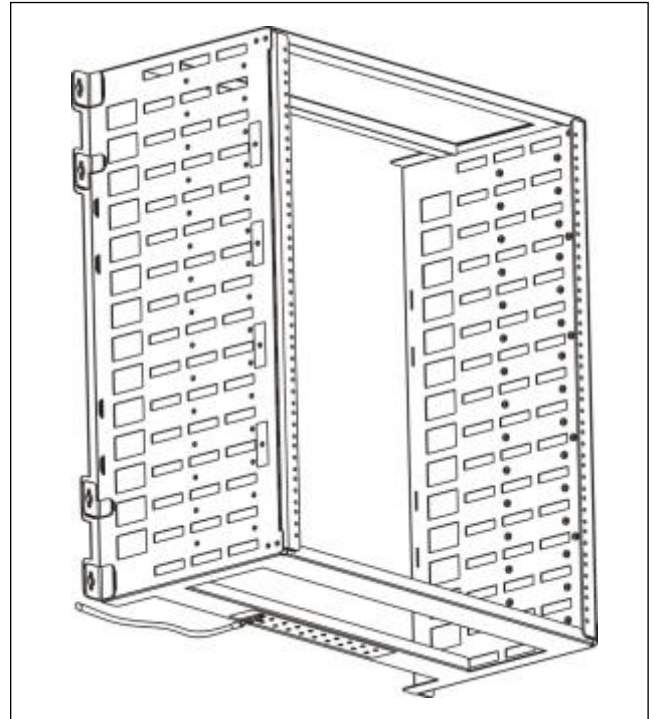

Figure 7. Frame grounding example
- ④ Remove the mounting frame from the wall and drill pilot holes for each of the marked screw locations.
- ⑤ Before attempting to fasten the mounting frame to the wall, insert a screw into the top pilot hole on either the left or right side. Partially thread the screw into the hole, leaving the screw head approximately 1/4" from the surface.
- ⑥ Hold the mounting frame against the wall while resting the cutout of the bracket on the installed screw. Align the other nine mounting holes and install a screw in each hole. Tighten all ten (10) screws securely.
- ① Locate the ten (10) pairs of pre-installed grounding screws with lock washers on the crossbar of the frame. The grounding screws are 10-32 x 3/8" on 5/8" centers.
- ② Install a dual ground lug (customer provided) with holes on 5/8" centers beneath the included screws and washers on one pair of grounding holes. Tighten the screws to fasten the lug to the mounting frame. The example in Figure 7 illustrates the frame positioned with grounding screws facing downward.
- ③ Connect a ground wire of appropriate gauge to the ground lug, and attach the other end of the wire to a bonded ground point, per local procedures for network equipment.